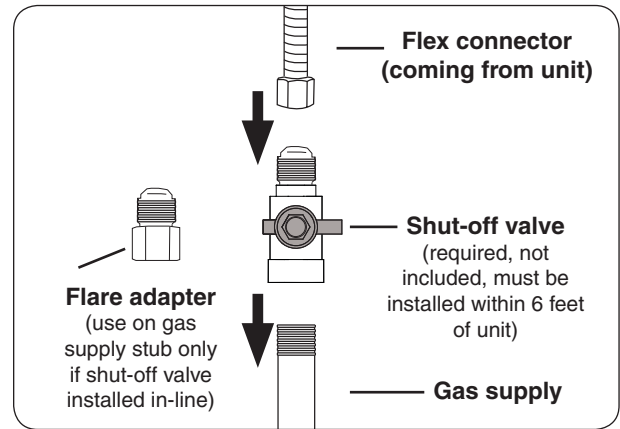

Fig. 22-1 Connecting to a gas line
- Connect the flex connector to the shut-off valve (see Fig. 22-1). Tighten securely.
- Install the supplied flare adapter to the gas supply using a pipe joint compound resistant to all gasses (see Fig. 22-1). Tighten securely.
- Connect the flex connector to the flare adapter (see Fig. 22-1). Tighten securely.